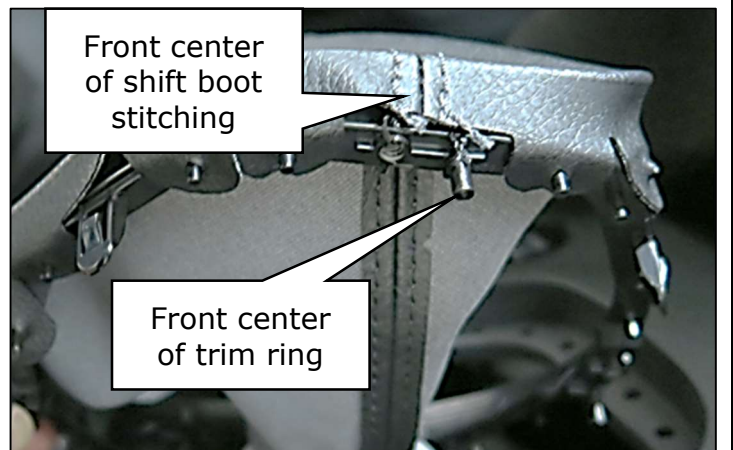

Figure 45
40. Lift the trim ring up and align the front center of the shift boot stitching with the front center of the trim ring. (Figure 45)